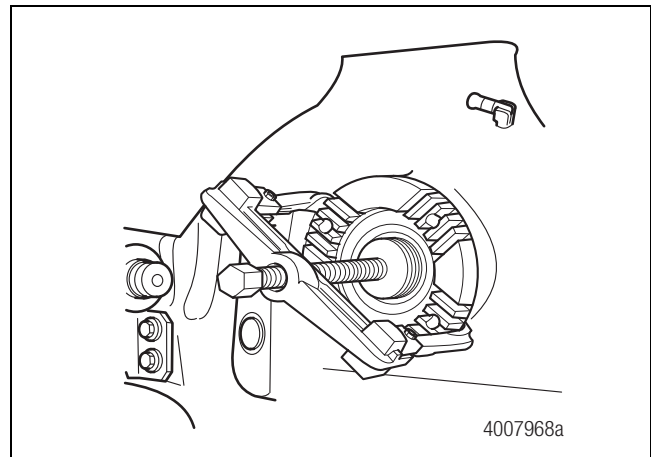

Figure 3.12
4. Use a suitable puller to remove the output shaft companion flange. Figure 3.12.